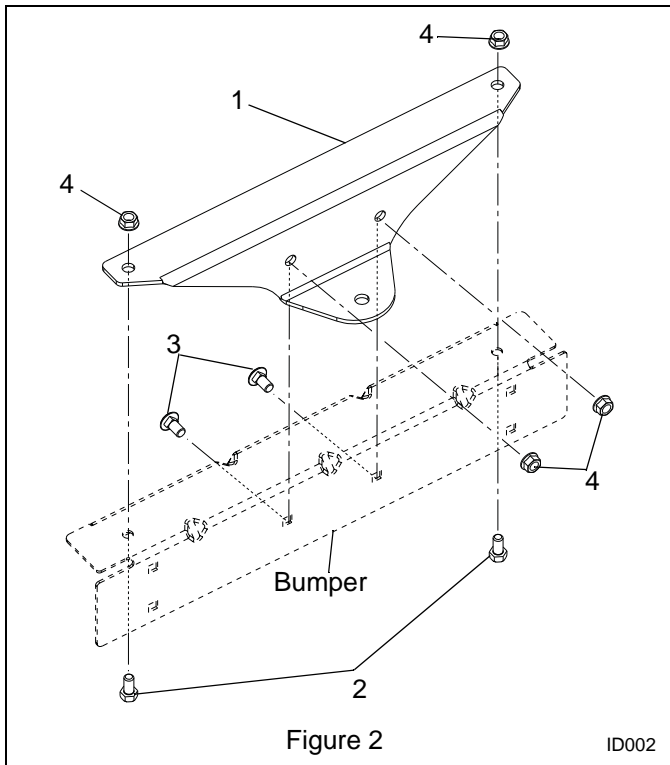

Figure 2
1. Line up the Consumer Hitch Plate (item 1) with holes on the bumper. (Figure 2)
2. Install the Consumer Hitch Plate (item 1) with two .38-16 x .75" Hex Bolts (item 2), two .38-16 x .75" Round Head Square Neck Bolts (item 3), and four .38-16 Locking Top Flange Nuts (item 4). (Figure 2)